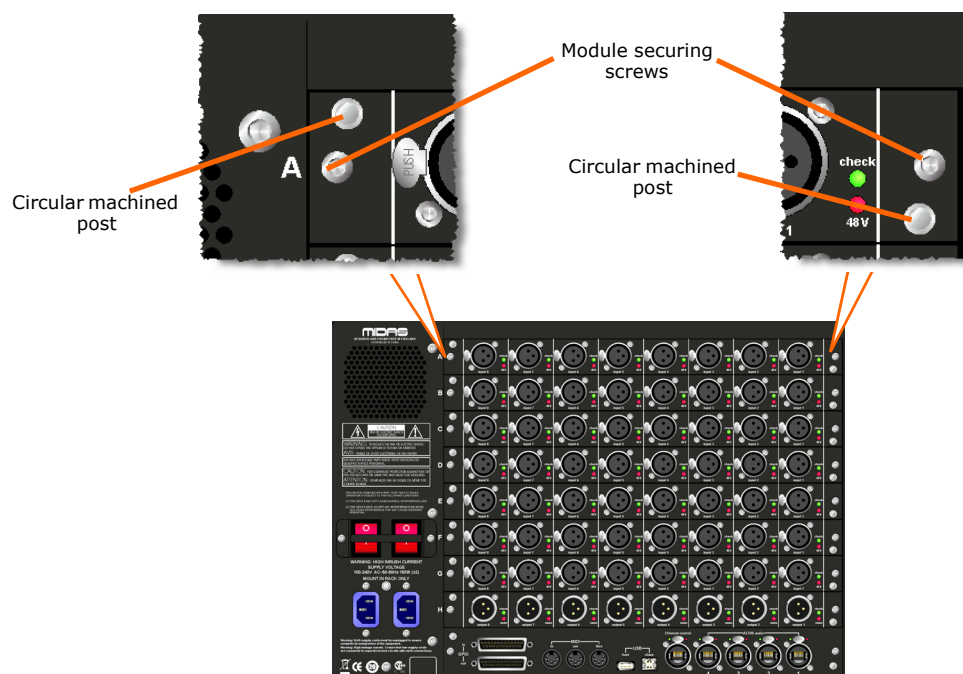

Figure 1: Location of components involved in module removal
- 3** Remove the two securing screws at either end of the module you wish to remove (see Figure 1).
- 4** Secure using two securing screws (see Figure 1 "Location of components involved in module removal" on page 33).